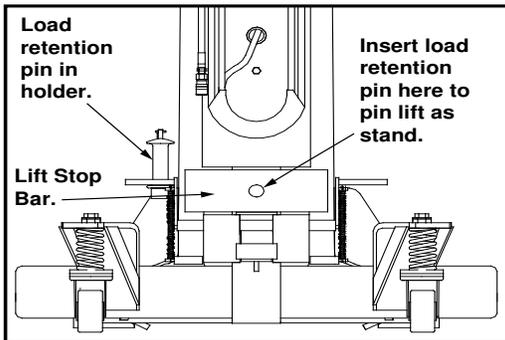

Fig. 6: Load retention pin
3. On both lifts, remove the load retention pin from its holder and insert it through the oblong hole in the lift stop bar and fully into the corresponding hole in the downstop lug (see Fig. 6) to pin the lifts as stands.